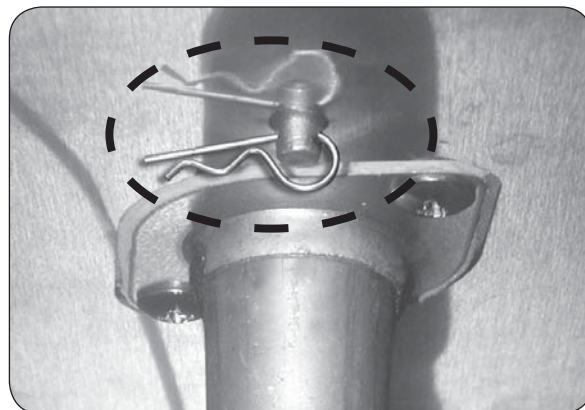

Fig. 22-1 Remove burner clip
3. Reach up under the burner support and remove the burner retaining clip (see Fig. 22-1), located at the rear of the burner pipe.